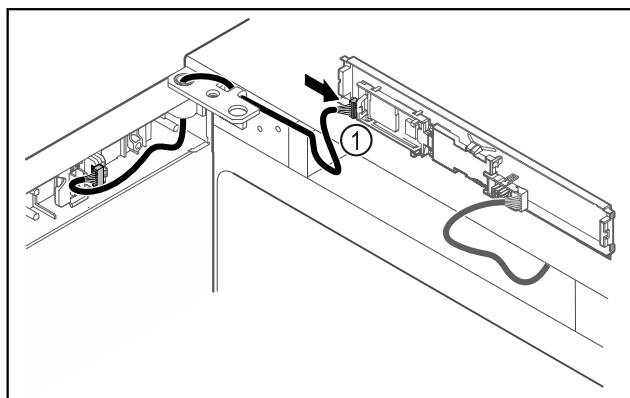

Fig. 42
- ▶ Connect the plug Fig. 42 (1) to the circuit board.